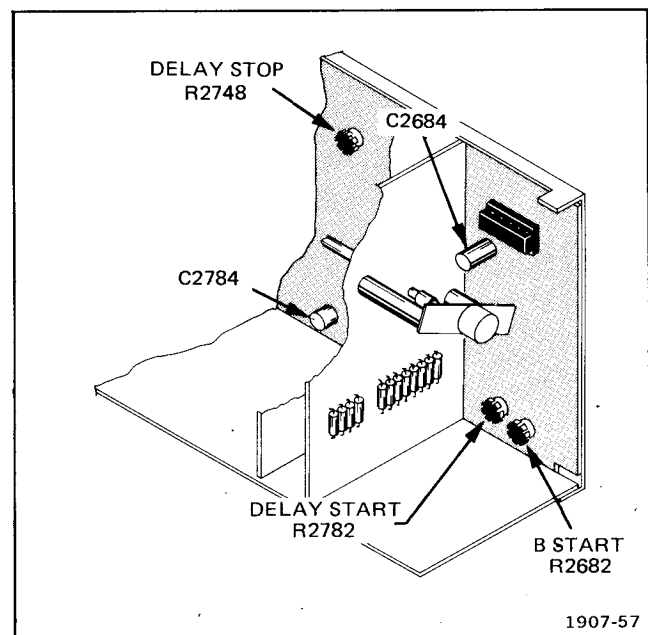

Fig. 6-5. Sweep adjustment locations.
- c. ADJUST—Delay Start, R2782 (see Fig. 6-5), so that second time mark is intensified.
- e. ADJUST—Delay Stop, R2748 (see Fig. 6-5), so that 10th time mark is intensified.
j. ADJUST—Delay Start, R2782 (see Fig. 6-5), so that second major time mark coincides with graticule center-line.
l. ADJUST—Delay Stop, R2748 (see Fig. 6-5), so that 10th major time mark coincides with graticule center-line.
d. ADJUST—B Start R2682 (see Fig. 6-5) so that B sweep starts at graticule centerline. While changing HORIZ DISPLAY switch from A to B DLY'D, adjust R2682 so that A and B sweeps start at same point.
c. ADJUST—C2784 (see Fig. 6-5) for 1 time mark/division.
e. ADJUST—C2684 (see Fig. 6-5) for 1 time mark/division.
i. ADJUST—C2784 (see Fig. 6-5) so that time mark coincides with graticule centerline.